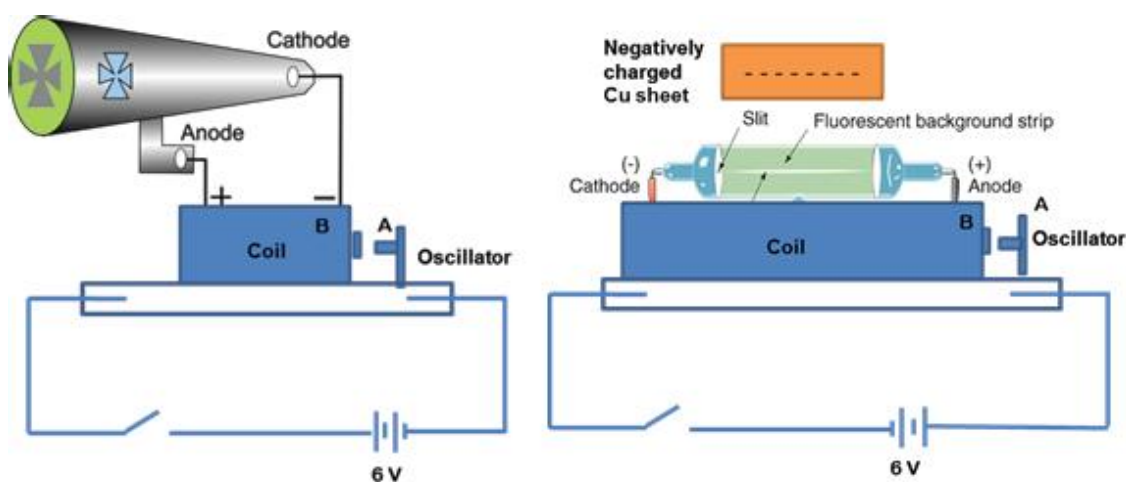

Figure 1.2. (a) Set-up for experiments I and II (b) Set-up for experiments III and IV
- Set-up the experiment as illustrated in Figure 1.2(a)
- Switch on the cathode ray tube with paddle wheels in the above circuit. Use the experimental set up in Figure 1.2.(a)
- Arrange the experimental set-up as shown in Figure 1.2.(b).
- Use the experimental setup as in Figure 1.2.(b) with the cathode ray tube used in experiment III.